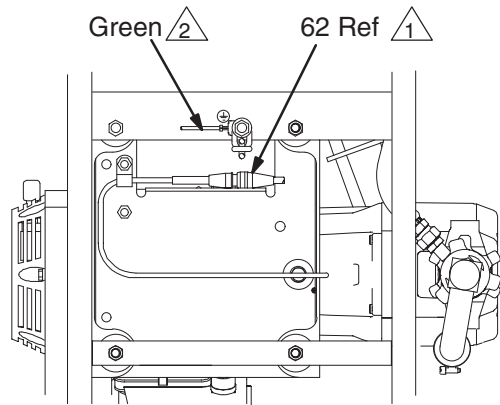

Fig. 13
2. Fig. 13. Disconnect all necessary wiring.
3. Fig. 13. Connect all necessary wiring.